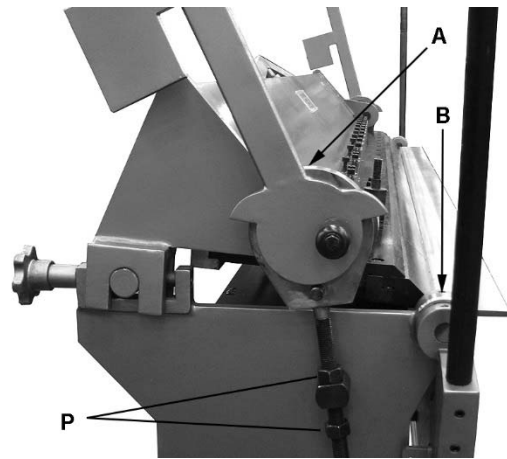

Figure 7
Clamping pressure should be adjusted according to material thickness. Clamping pressure should be great enough to hold material securely in place but not so much that it is difficult to lock the clamping handles. Clamping pressure can be adjusted by turning the nuts on the threaded rod portion of yoke assembly (P, Figure 7).
The machine must be lubricated every day of service with a few drops of oil at the pivot points. Oil pinholes are located at both yoke assemblies (A, Figure 7) and the apron assembly near the hinge pin (B).